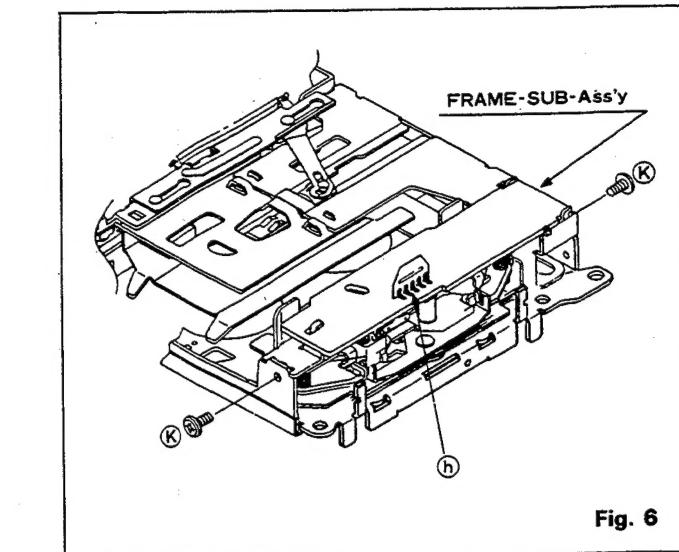

Fig. 6
- (1) Remove solder from 5 points at Section ⑯. (Refer to Fig. 6).
- (2) Loosen Screws ⑰ (2 pcs.) to remove the frame sub ass'y.